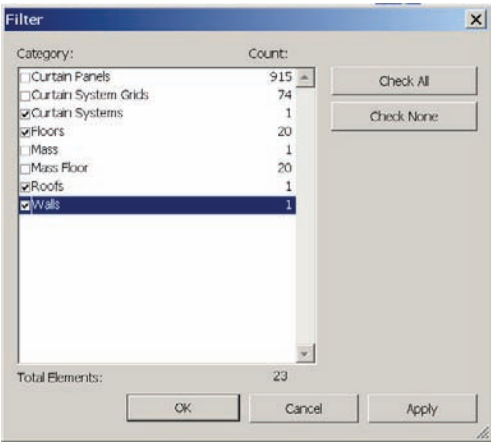

Figure 7.97
6. In the Filter dialog box (Figure 7.97), deselect all check boxes except for the model geometry—this will leave Curtain Systems, Floors, Roofs, and Walls selected—then click OK.